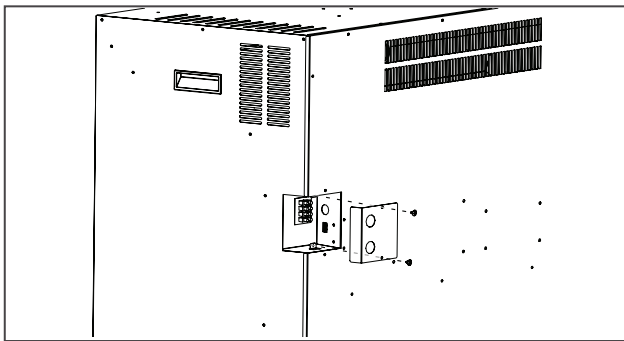

Fig. 1
1. Locate the desired 2 conductor or 3 conductor wire cable to the right side of the enclosure for the hard-wiring installation based on the desired 120 V or 240 V heat output capability **(Fig.1)**.